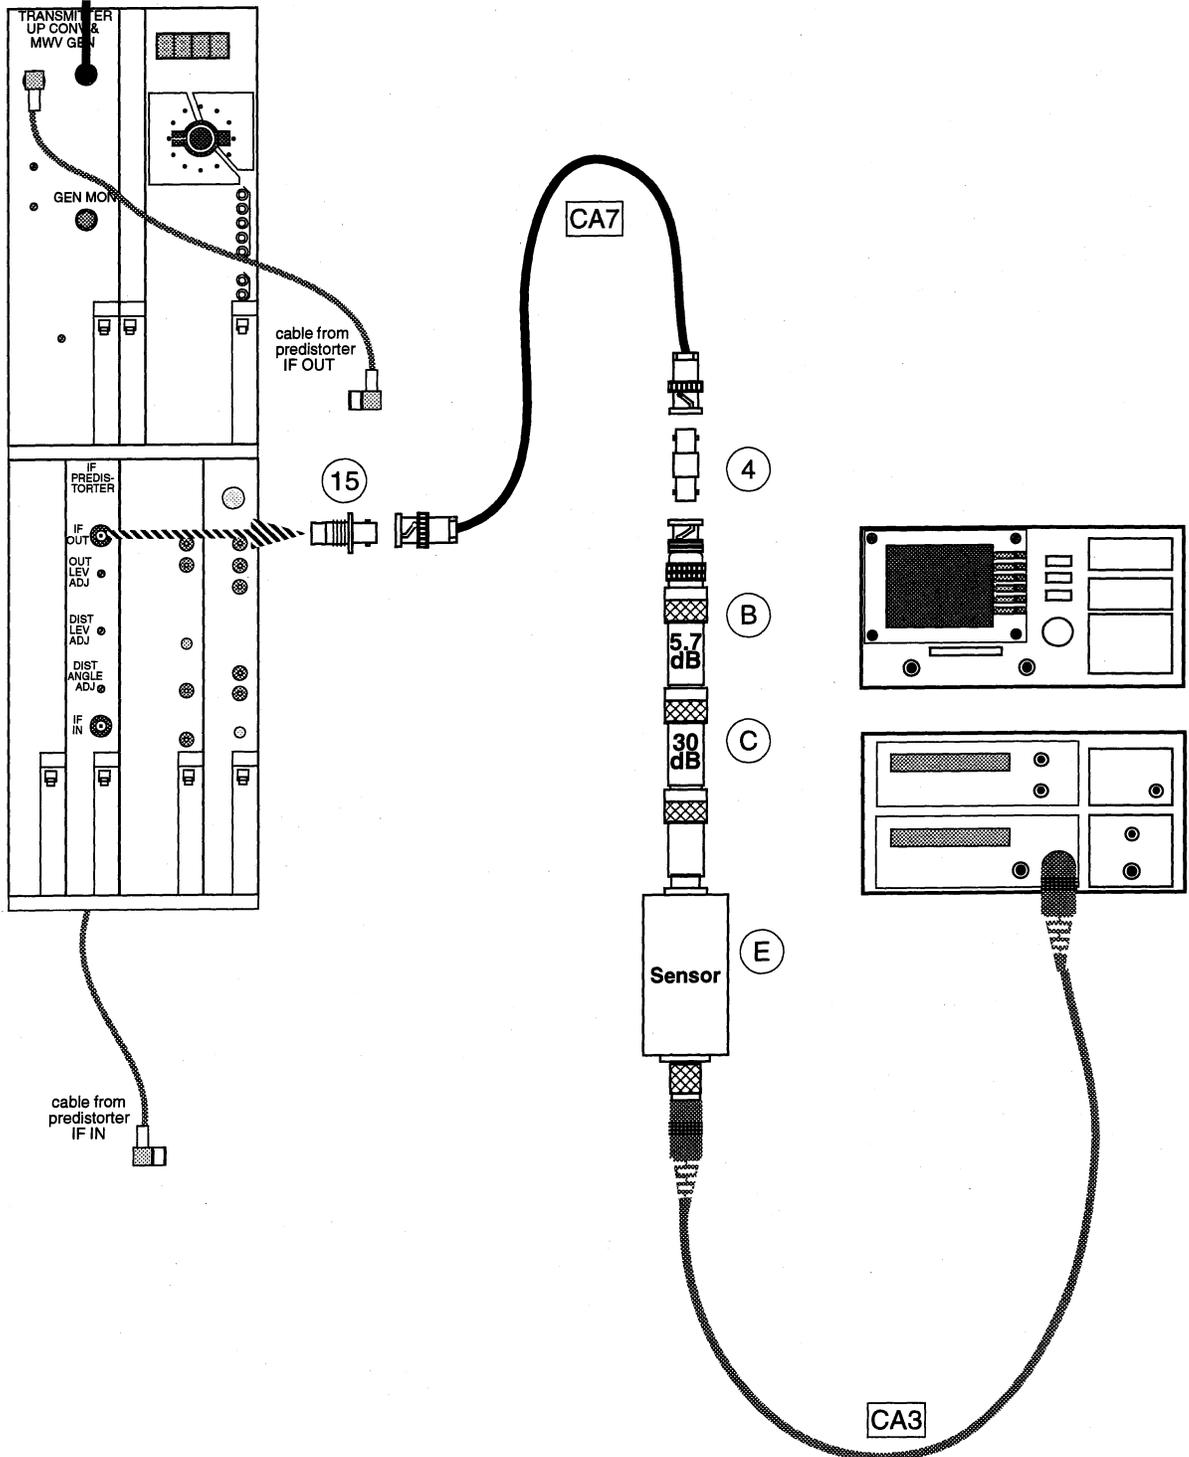

Figure 18. IF Predistorter Output Level Check
- 30 Connect the test equipment as shown in Figure 18.